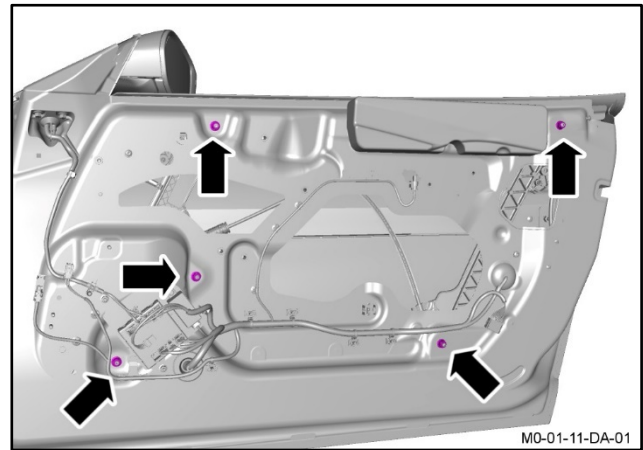

Figure 21
35. When the door glass is correctly aligned, torque the five nuts that attach the regulator to the door to 23 Nm (refer to Figure 21).